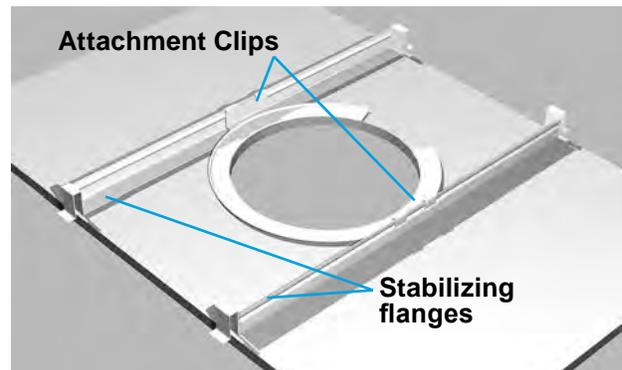
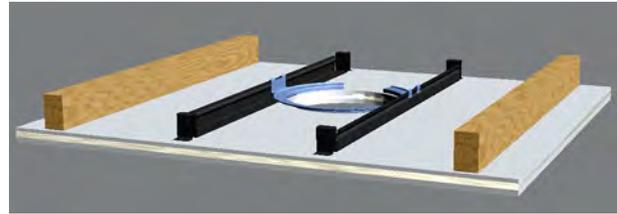

Figure 25. Installing a C-Ring support plate onto tile bridge support rails
Figure 28. New installation in an existing drywall ceiling
2. Insert the bridge support rails through the can cutout and position them across the rails on either side of the cutout, approximately as far apart as the clips on the C-ring support plate. See Figure 25.
3. Guide the C-ring support plate through the cutout hole and position it centered in the hole and aligned so its attachment clips are closest to the tile bridges you just placed. Slide these bridges as necessary so the C-ring clips can be pressed onto the raised rail ribs, and now snap the C-ring clips onto the rails. See Figure 25.
B. An alternative method for new installations – where the ceiling has already been completed – is to use the C-Ring Support Plate along with the Tile Bridge Support Rails. While there are in fact not going to be truss members across which the rails fit, nonetheless they will distribute the weight of the loudspeaker assembly across a greater area than the C-Ring Adapter alone and will thus avoid sagging that might otherwise occur over time. You can cut the hole using the provided template or using a New Construction Bracket as a cutting guide, even though this bracket won't be used for anything else. It's then easy to pass the Tile Bridge Support Rails through the cutout and snap the C-Ring Support Plate on top of them. Refer to Figure 25 on page 23 and to Figure 28.